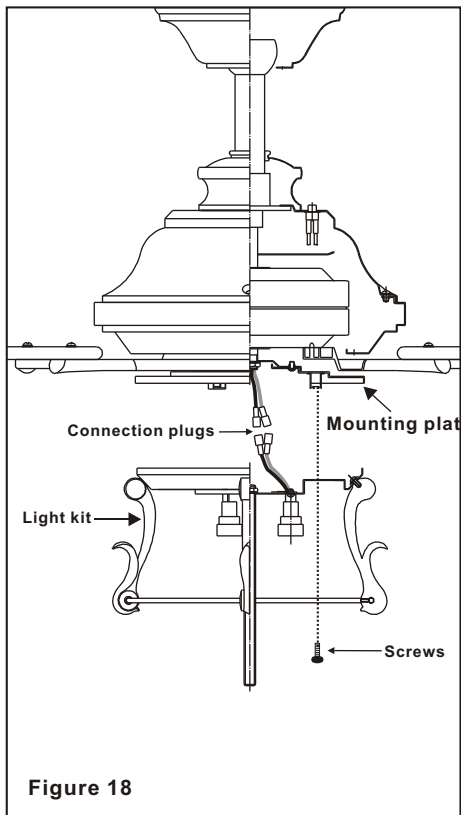

Figure 18
Step 2. Raise and hold the light kit close to the mounting plate and proceed to do the wire connections. Connect the white wire connectors from the light kit and fan, follow the same procedure with the black wire connectors. (Fig. 18)
Step 3. Tuck connections neatly into mounting plate, Place the key holes on the light kit over the 2 screws previously loosened from the mounting plate, turn light plate until it locks in place at the narrow section of the key holes. Secure by tightening the 2 screws previously loosened and the one previously removed. (Fig. 18)